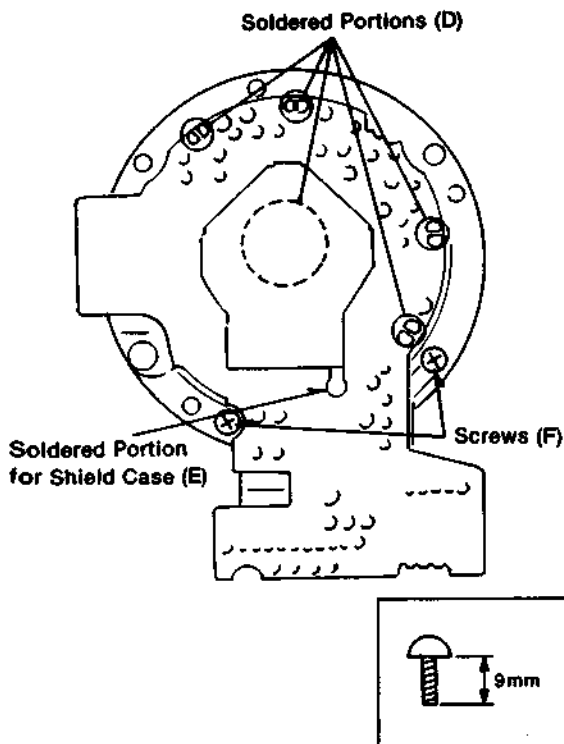

Fig. 1-12
- Unsolder the soldered portion (E) for shield case to take it out, see Fig. 1-12.
- Unsolder the soldered portion (D) indicated by an arrow mark (including the soldered portion inside the shield case).
- Remove screws (F) to remove the cylinder drive CBA.